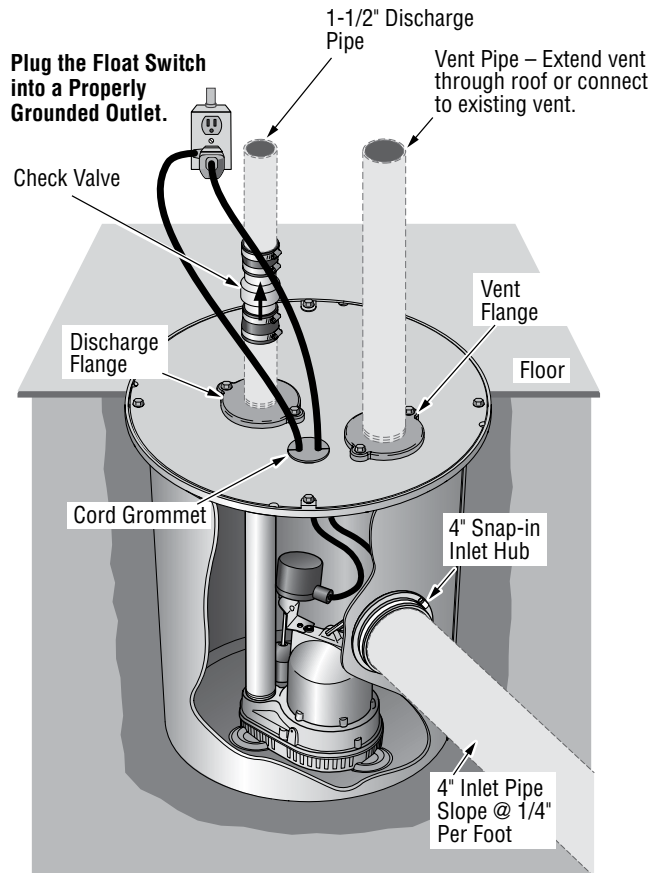

Figure 1: Typical Installation
Installation Instructions. See Figure 1.
1. Dig the hole for the basin and the sub-base. The hole must be deep enough so the top of the basin is flush with the finished floor. Refer to Figure 1.
11. Install the 1-1/2" check valve (supplied) in the discharge pipe. See Figure 1. Make certain the flow indicating arrow points away from the pump. This check valve will keep the water from running back into the basin when the pump is not running.